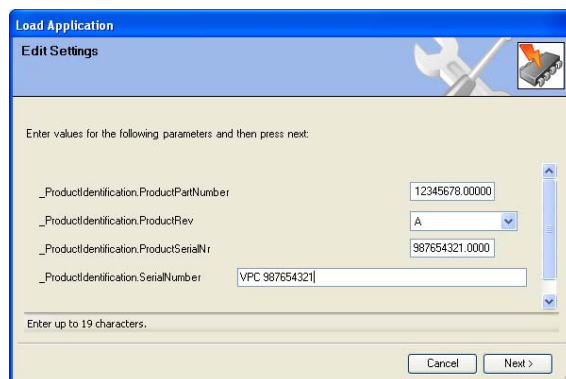

Figure 5-9. VPC Serial Number Screen
15. Then repeat the serial number one more time and add the "VPC " (and space) before the serial number. The screen must look something like this. You can now click the Next button, and the following screen will show (Figure 5-9).